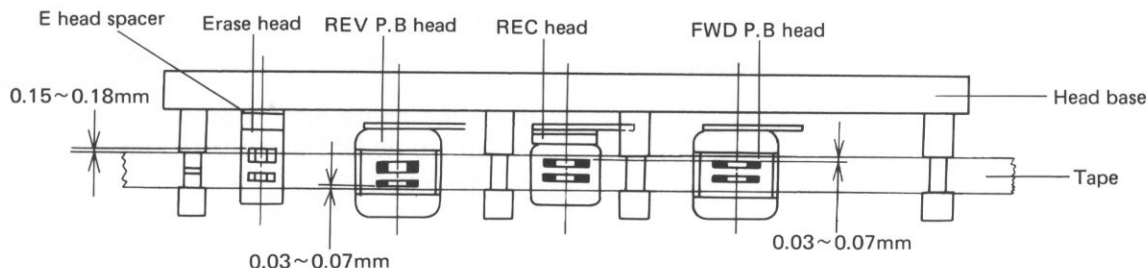
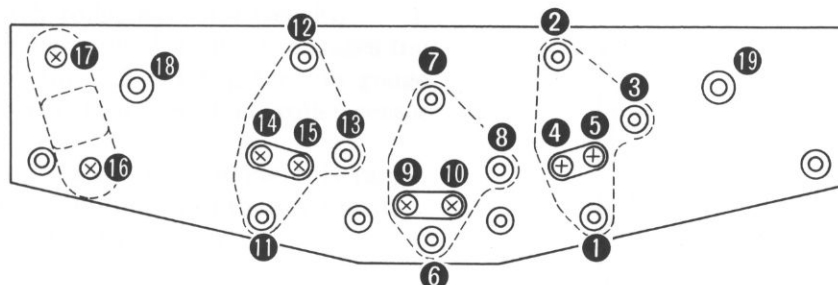

Fig. 8-1 Dimensions for the height of heads
Fig. 8-2 Adjustment points
Adjust the following screws (see Fig. 8-2) to attain the dimensions as shown in Fig. 8-1 for each head during tape transport.
If the Fig. 8-1 dimensions for the height of the erase head cannot be obtained, remove screws 16 and 17 and also the head base, loosen screws 16 and 17, and replace the E head spacer.
Adjust the following screws shown in Fig. 8-2 so that both the top and bottom of the head surface make uniform contact with the tape during tape transport.
Adjust the following screws shown in Fig. 8-2 so that the head gap is at an exact right angle to the direction of the tape.
2. Adjust screw ③ (⑬) shown in Fig. 8-2 until the AC millivoltmeter gives a maximum reading. As long as there is no big difference in output between left and right channels, this may be disregarded.
3. Check that there is no change in output when the tape is pressed in slightly by hand (near the head gap) during tape transport. If the output does vary, loosen screws ④ and ⑤ (⑭ and ⑮) shown in Fig. 8-2, and move the head around in a horizontal plane (i.e. in either left or right directions) to find the most suitable position.
2. Record this 2kHz signal onto the STD-502 test tape, and play the recorded portion back. Adjust screws ⑥, ⑦ and ⑧ as shown in Fig. 8-2 so as to obtain maximum output level in both left and right channels.
3. Next apply a 15kHz signal and record it onto the same test tape. During playback, fine adjust screw ⑧ to again obtain maximum output level in both channels.
4. Then gently press against the tape (by finger) during transport at a spot near the head gap, and check for any change in output level. If the level does vary, loosen screws ⑨ and ⑩ as shown in Fig. 8-2, and move the head around in a horizontal plane (either to left or right) to find the optimum position.